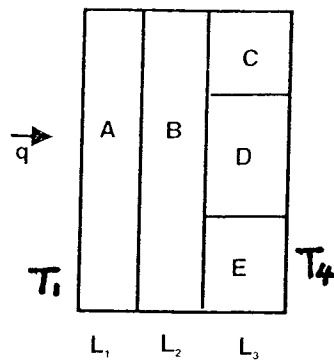

Figure 1
1. [a] Referring to the Figure 1, let L_1 , L_2 , L_3 be 0.153 m, 0.244 m and 0.305 m. It is assumed the total heat transfer rate q , is 29.3 W. Other assumptions are listed in the table below. Determine the temperature difference between T_1 and T_4 .